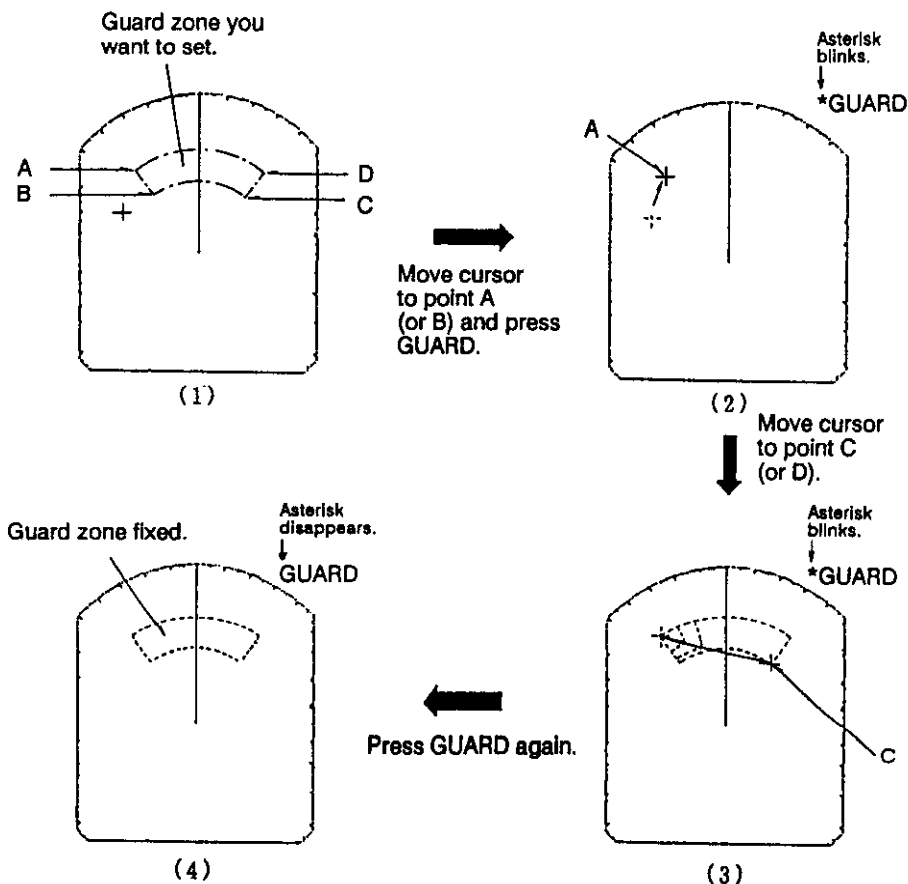

Figure 2-14 Setting Guard Zone
1. Mentally create the guard zone you want to display on-screen. See Figure 2-14 (1).
2. Set the upper (lower) left edge of the guard zone with the cursor. Press the **GUARD** touchpad. The indication "***GUARD**" (asterisk blinking) appears at the upper right-hand side of the screen. See Figure 2-14 (2). The asterisk indicates the guard zone is partially set, but the alarm function has not been actuated.
3. Moving the trackball clockwise, set the lower (upper) right edge of the guard zone. The guard zone now appears on the display but the alarm function has not been actuated yet. See Figure 2-14 (3).